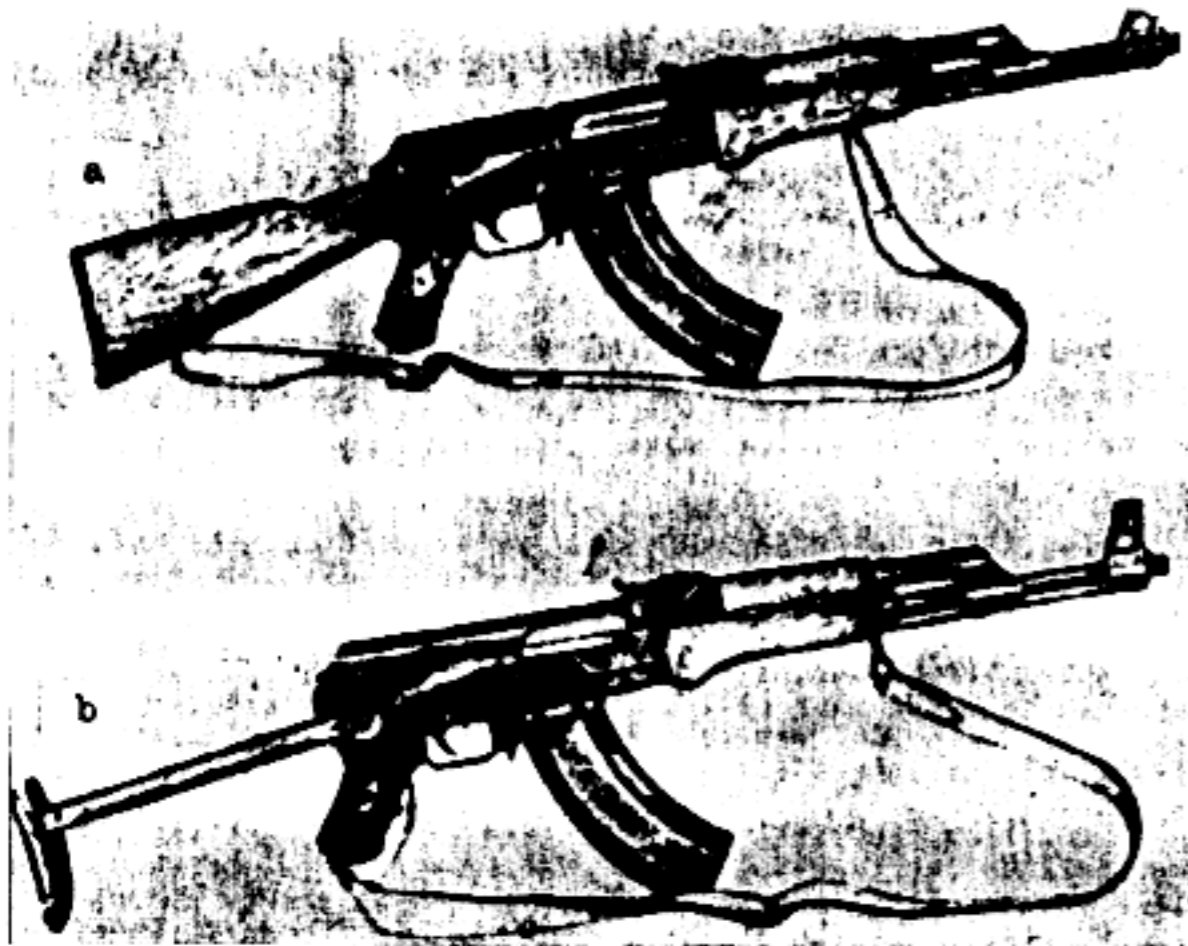

Figure 1. General view of the Kalashnikov automatic rifle.
The 7.62-mm Kalashnikov automatic rifle (AK) (fig. 1) is a powerful individual automatic weapon designed to destroy enemy personnel at short distances.